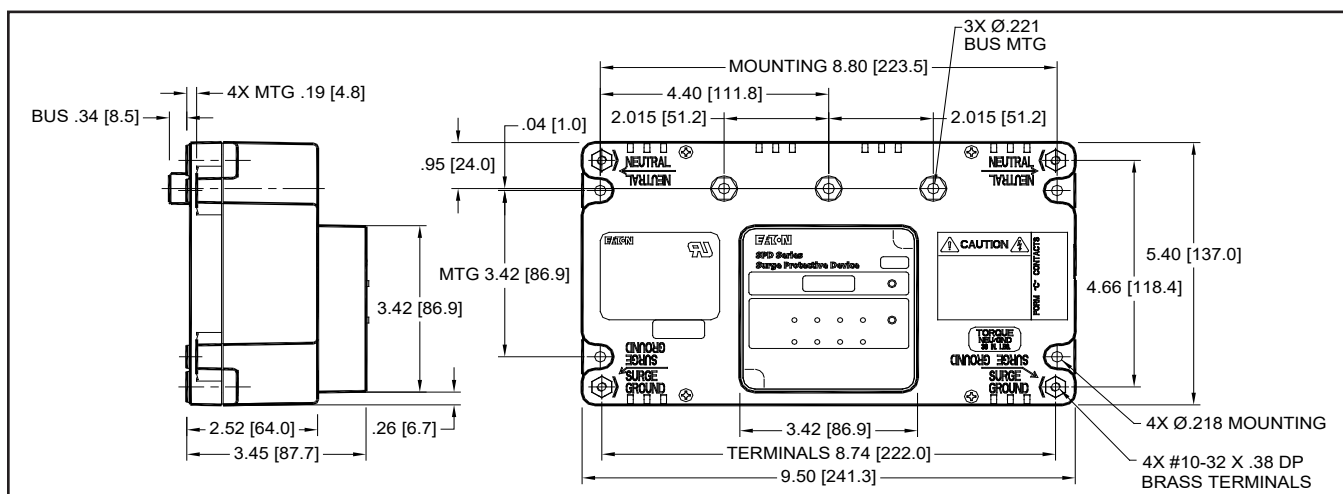
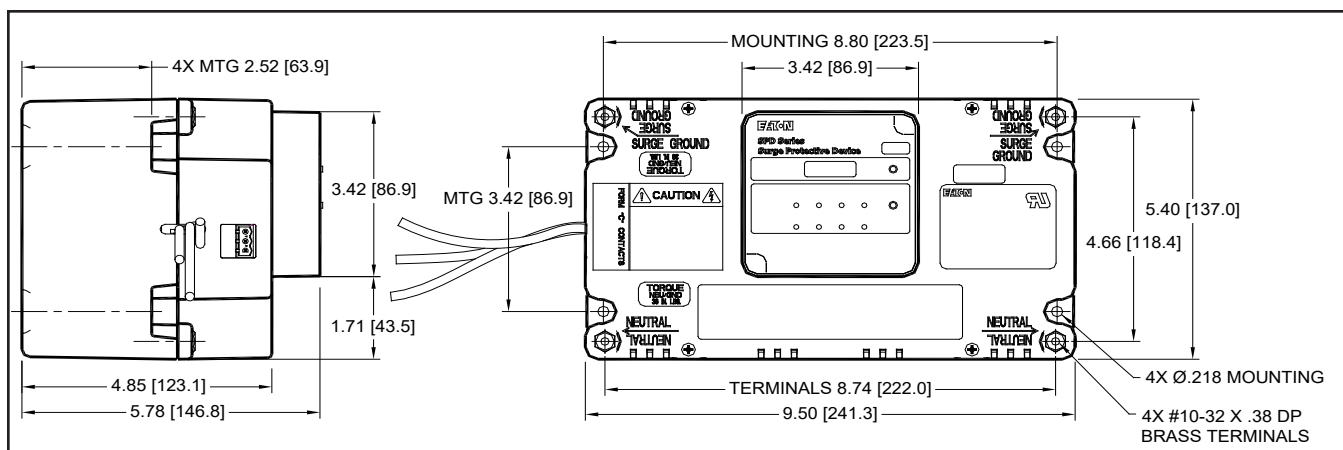

Figure 4. Dimensions for 50-200kA Units
Figure 5. Dimensions for 250-400kA Units
4. Mount the SPD to the support brackets (customer supplied) using #10 fasteners and tighten to 4.1 Nm (36 in-lbs). See Figures 4 and 5 for mounting details.
- Mount the SPD to the support brackets (customer supplied) using #10 x 2-3/4" fasteners and tighten to 4.1 Nm (36 in-lbs). For 50-200kA models, see Figure 4 for mounting dimensions. For 250-400kA models, see Figure 5 for mounting dimensions. **Note:** Mount the SPD as close as possible to the circuit breaker.
1. Ensure that the dead-front or door has the appropriate cut-out to accommodate the SPD Display. See Figure 4 or Figure 5.
1. Ensure that the MCC bucket door has the appropriate cut-out to accommodate the SPD Display. See Figure 4 or Figure 5.